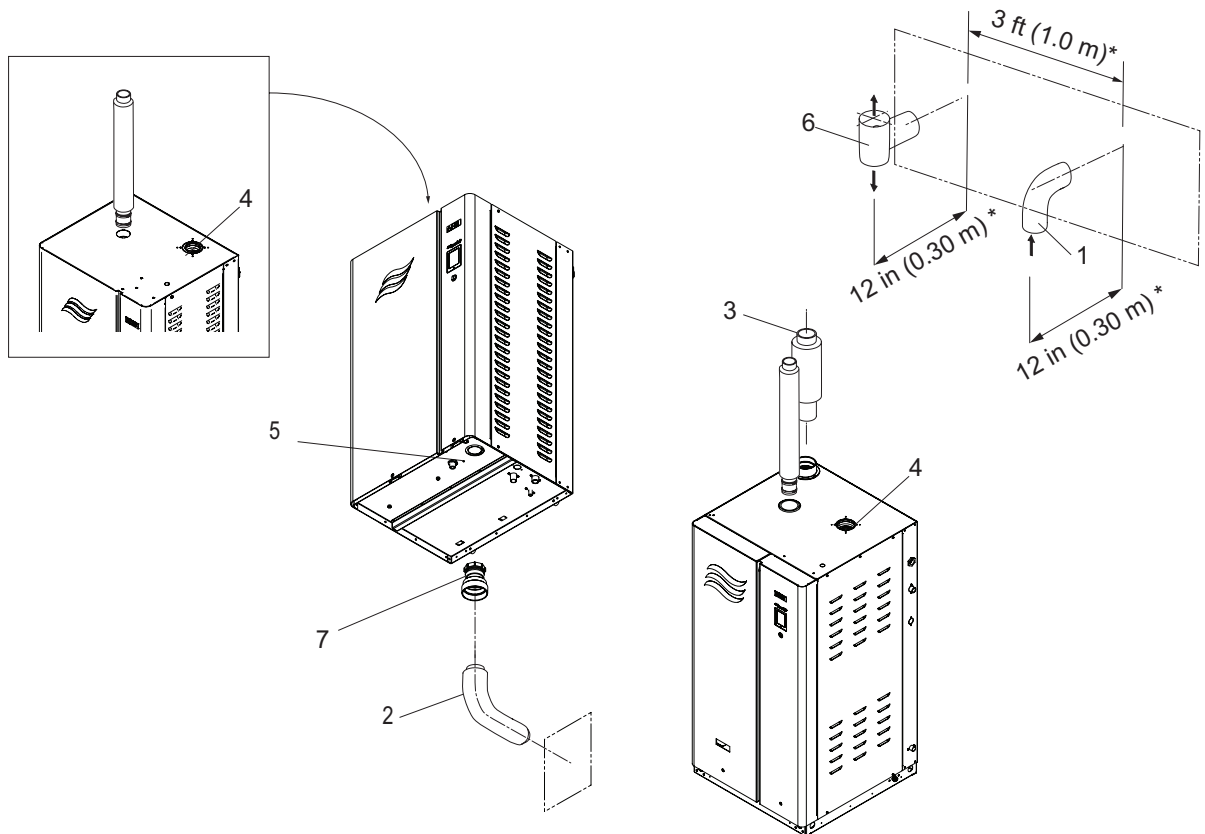

Figure 18: Sealed Combustion Connection (compact shown left)
**Note:** Condaire requires installing an elbow (fitted with a screen) at the intake air inlet on all Nortec GS 150-600 (full size) units to prevent dirt and debris from being drawn into the combustion chamber. Seal the connection with silicone sealant. Keep the area around the air intake clear of all obstructions. Refer to Figure 18. Refer to Table 15 on page 37 for outside diameter of elbow.
Figure 18 shows the sealed combustion connection for the compact and full-size Nortec GS humidifiers.
- An intake (elbow) terminal must be installed on the outside termination of the air intake vent, with the elbow facing down – refer to Figure 18 on page 37. The location and spacing between the air intake terminal and exhaust vent terminal must comply with all local and national regulations, with at least a minimum spacing of 3 ft (1 m) between them.